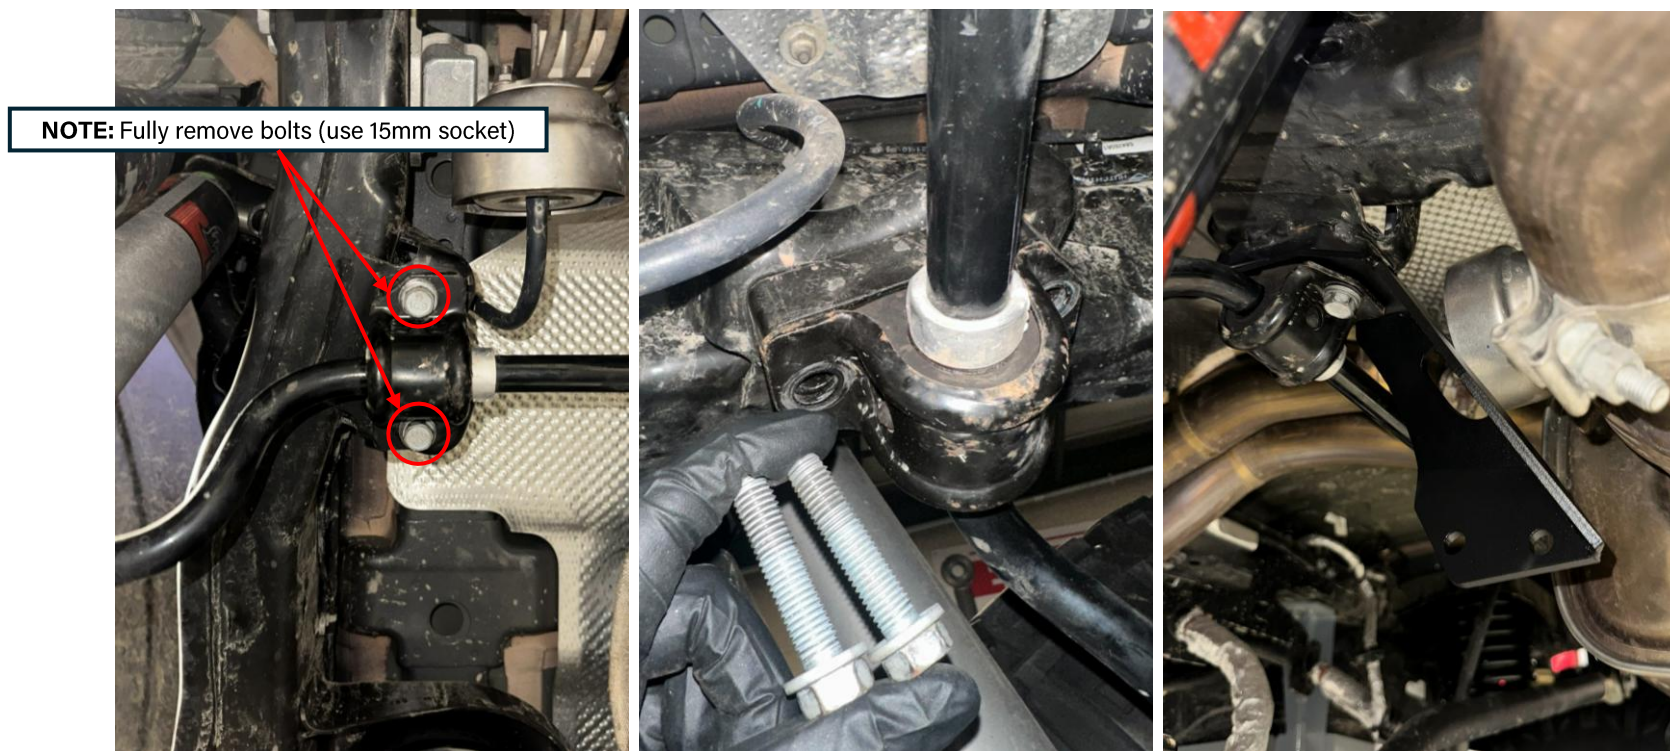

Figure 4: Driver's side rear support bracket loosely installed
3. Starting on the driver's side, fully remove the bolts from the frame sway bar bushing bracket using a 15mm socket. Slightly pull down on the sway bar to obtain some play, then slip the driver's side rear mount bracket under the sway bar bushing bracket. See Figure 4 below. **Loosely** thread back in the sway bar bushing bracket bolts.
The rear support brackets **are** side specific. When installed properly, the driver's side bracket will fall on the **inside** of the sway bar bushing as shown below in Figure 4.